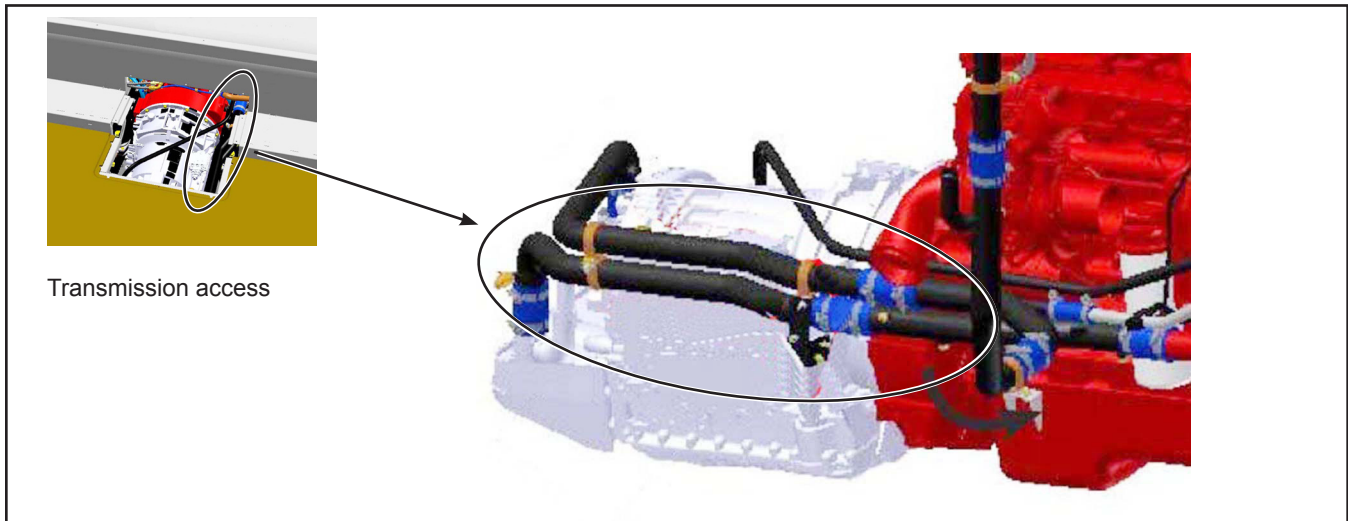

Figure 3 - Transmission Coolant Rigid Hoses
- 1.6. Remove the rigid transmission coolant hoses. Retain the hardware. See Figure 3. This step is required to access the engine mounts.